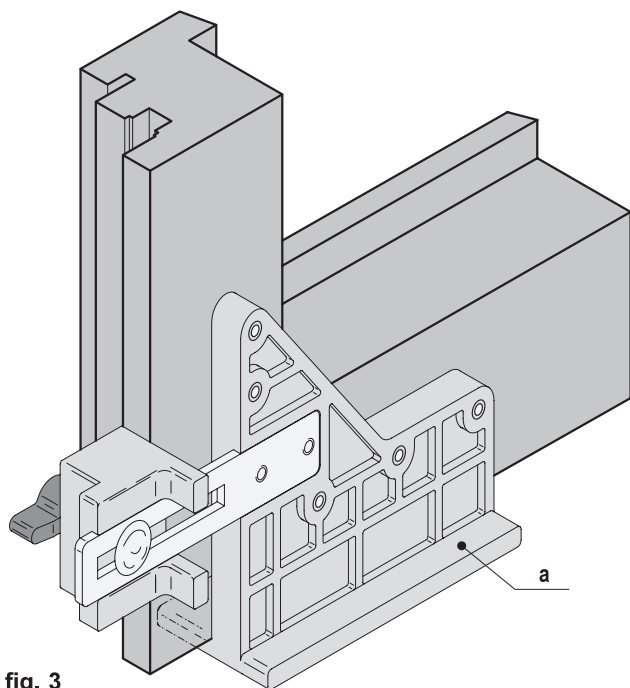

fig. 3
- 2) Position the jig art. M02030.00.02 (a) on the rebate of the lower rail or on a stile of the sliding sash (fig. 3). Drill 5 holes using a 4 mm drill bit, depth 40 mm.